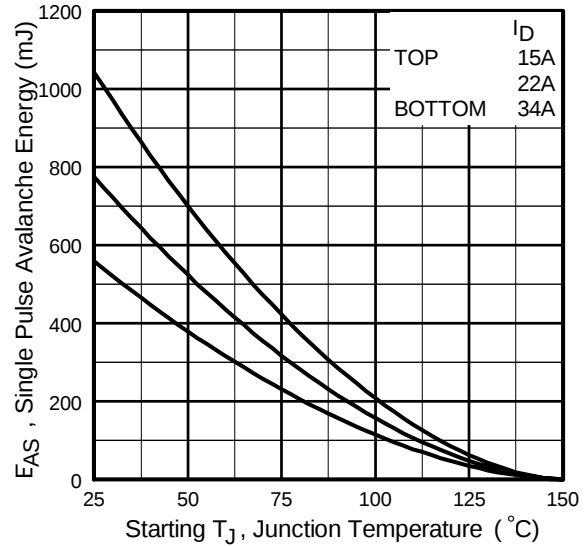

Fig 13. Maximum Avalanche Energy Vs. Drain Current
- ② Starting $T_J = 25^\circ\text{C}$, $L = 0.97mH$, $R_G = 25\Omega$, $I_{AS} = 34A$ (See Figure 13)
- ③ $I_{SD} \leq 34A$, $di/dt \leq 765A/\mu s$, $V_{DD} \leq V_{(BR)DSS}$, $T_J \leq 150^\circ\text{C}$.
④ Pulse width $\leq 400\mu s$; duty cycle $\leq 2\%$.
⑤ $C_{oss \text{ eff.}}$ is a fixed capacitance that gives the same charging time as C_{oss} while V_{DS} is rising from 0 to 80% V_{DSS} .